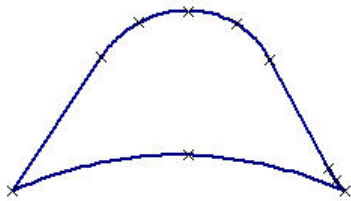

Figure 6. The final pattern
24. Choose File/Save (FS) to save the final pattern (Fig. 6).